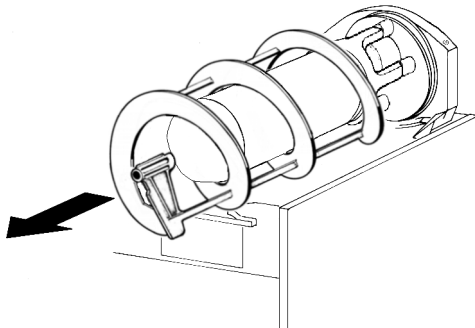
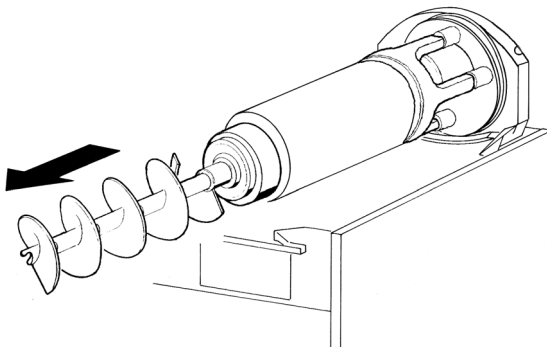

figure 10
figure 11
- 3** Slide the outer spiral out (see figure 10) and then the inside auger (see figure 11).